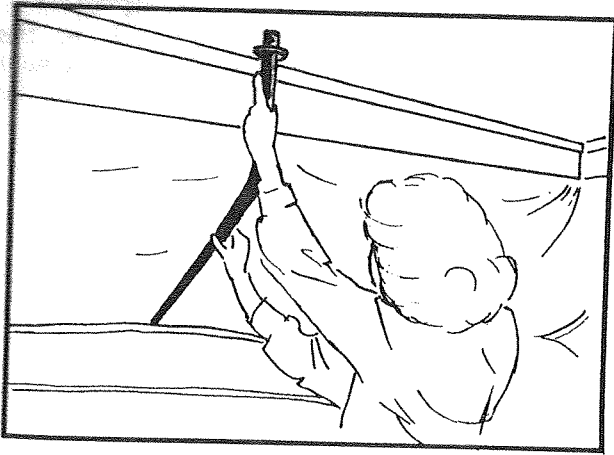

FIGURE 27
33. To complete and support the tent enclosure over the bed (front and rear), attach the bed bow support by inserting the straight end into the bed bow. Insert the rounded end of the bed bow support into the roof retainer. (See Figure 27.)
11. Detatch both front and rear bed bow supports from the roof retainer and from the bed bow. Lay the bed bow supports under each mattress. See Figure 27.